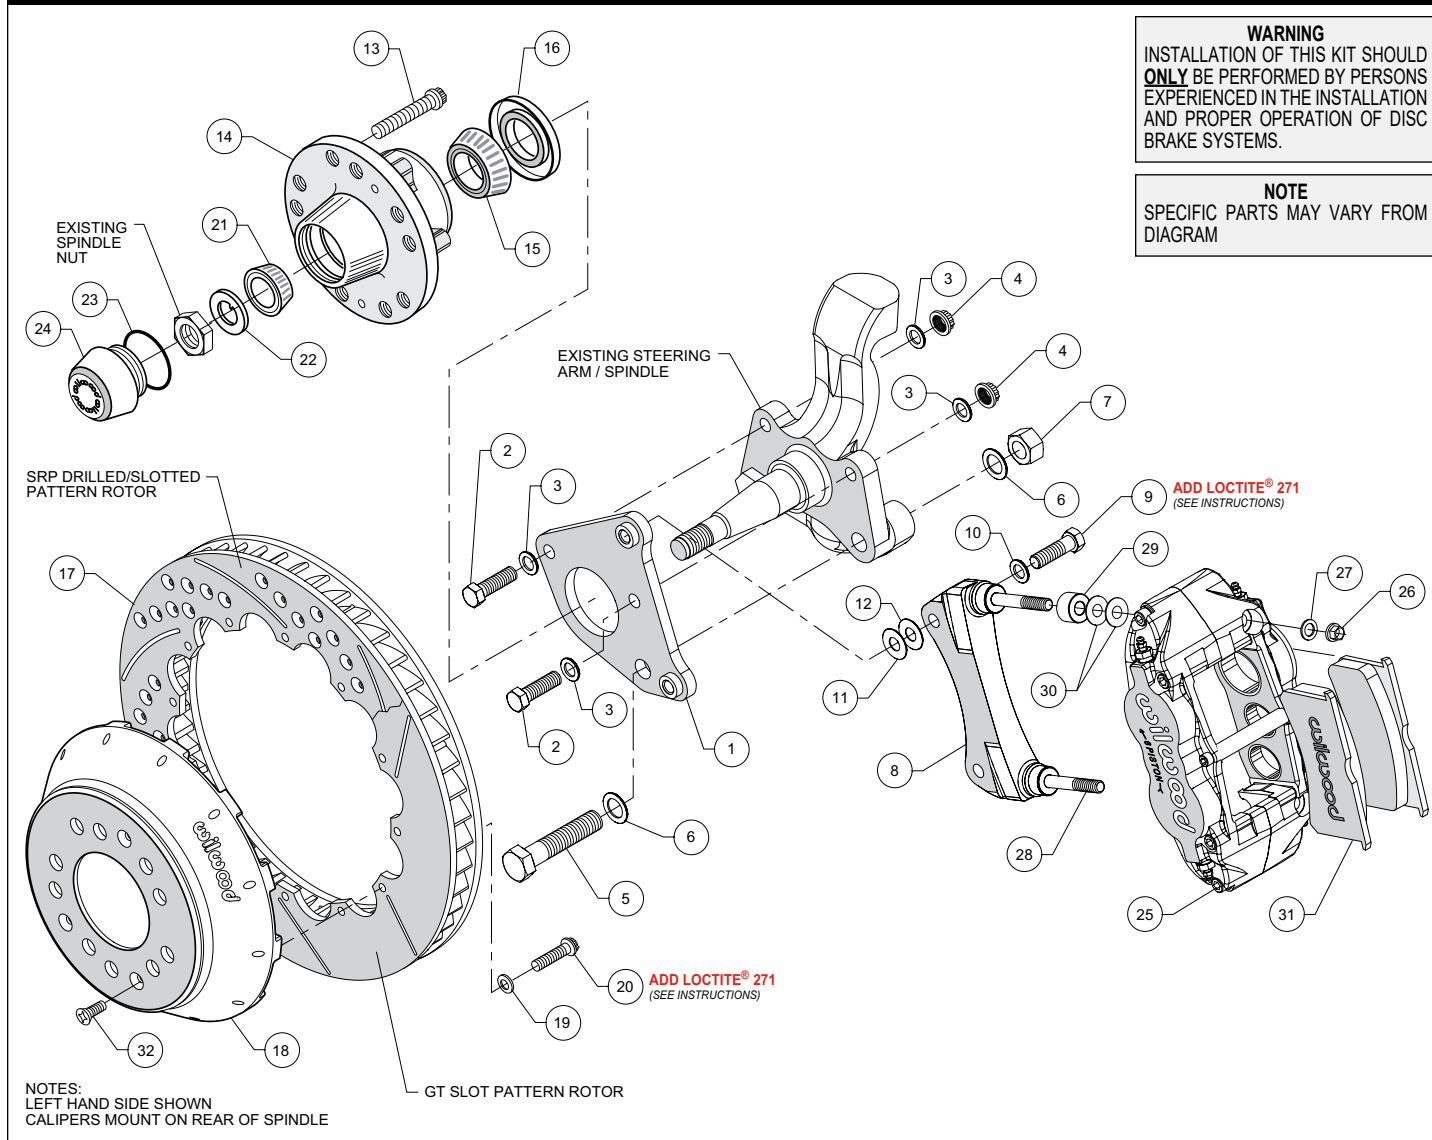

Figure 1. Typical Installation Configuration
NOTE: Numbers in parenthesis refer to the parts list and Figure 1 on the preceding pages.
- Install the flat caliper bracket (1) to backing plate face of spindle using bolts (2 and 5). Install bolt (5) and washer (6) through caliper bracket (1), spindle face and the steering arm. Install another washer (6) and lock nut (7) on the rear side. Install two bolts (2) with washers (3) through caliper bracket (1), spindle face and the steering arm. Install another washer (3) and lock nut (4) on the rear side of each bolt. Torque two lock nuts (4) to 47 ft-lb. Torque lock nut (7) to 140 ft-lb. **NOTE:** Be sure the heads of the caliper bracket (1) insert nuts are facing outward toward the wheel. Reference Figure 1 as necessary.
- The radial caliper mounting bracket assembly (8) should be installed first with clean, dry threads on the mounting bolts. Install the bracket on the inboard side of the flat caliper mounting bracket (1) by sliding bolt (9) through flat washer (10), through the mounting hole in the bracket (8) and into the flat bracket (1) insert nuts. Initially place two shim washers (12) between the two brackets (1 and 8) (see figure 1). The radial bracket (8) must tighten squarely against the inboard side of the flat mounting bracket (1). Later, after the caliper, pad, and rotor alignment has been checked, and any necessary shims have been put in place, the mount bolts should be coated with red *Loctite*® 271 and torqued to 47 ft-lbs.
- Install five new wheel studs (13) into the hub (14). Torque to 77 ft-lb. **NOTE:** There are two five lug patterns in the hub (5 x 4.00 and 5 x 4.50). Make sure of the correct hole pattern for the correct wheel application before installing studs into hub.
- Pack the large inner bearing cone (15) with high temperature disc brake bearing grease (available from your local auto parts store) and install into the backside of the hub (14).
- Pack the small outer bearing cone (21) with high temperature disc brake bearing grease. Lightly coat the spindle bearing surfaces with bearing grease. Slide the hub assembly (13, 14, 15 and 16) with outer bearing cone (21) onto the spindle. Secure using spindle washer (22) and existing spindle nut. Adjust bearings per OEM specifications and install nut locking device.
- Install the dust cap (24) onto the hub (14). Friction created by the o-ring (23) on the dust cap (24) keeps it from unscrewing. The O.D. of the existing spindle washer may be larger than the I.D. of the dust cap (24) which may allow the washer to contact the dust cap (24). Be sure to use the spindle washer (22) supplied with the kit instead of the stock washer.
- NOTE:** *This kit contains distinct right and left hand calipers that must be mounted in a specific direction, as described below.* Initially place two .035" thick shims (30) and one spacer (29) on each stud (28) as shown in Figure 1. Mount the caliper (25) onto the bracket (8) using lock nuts (26) and washers (27), Figure 1. Ensure that the caliper is mounted so that the largest pistons are at the rotor exit end of the caliper, in relation to the direction of rotor rotation. Temporarily tighten the lock nuts and view the rotor through the top opening of the caliper. The rotor should be centered in the caliper. If not, adjust by adding or subtracting shims (11 and/or 12) between the radial bracket and the spindle bracket. Always use the same amount of shims on each of the two mounting bolts.
- Remove the caliper center bridge pad retainer bolt, nut, and tube from the caliper. Slide the brake pads (31) into place. They should install easily without interference. Check that the outside radius of the brake pad is flush with the outside diameter of the rotor face. Add or subtract shims (30) between the caliper and radial mounting bracket to gain the proper alignment. Reinstall the center bridge pad retainer tube, bolt, and locknut. The locknut should be snug without play in the bolt or tube. Be cautious not to over tighten.
- Once all clearances have been checked, remove the wheel, caliper, hat, and rotor from the spindle and hub. Secure the radial caliper mounting bracket (8) to the flat caliper mounting bracket (1) using red *Loctite*® 271. Torque the bolts to 47 ft-lbs. Reinstall the hat and rotor assembly and again use several lug nuts to hold it in place. Reinstall the caliper, torque the caliper nuts (26) to 28 ft-lbs.
- Install three flat head socket screws (32) through the small holes in the hat (18) and torque to 85 in-lb.